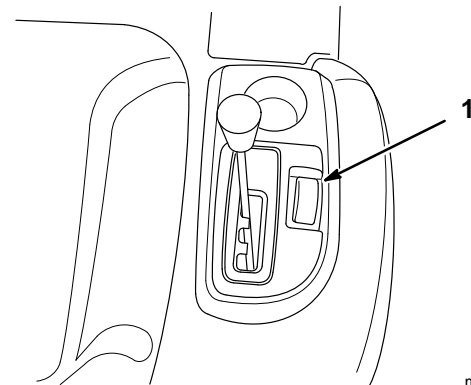

Figure 25
The cruise control is a switch (Fig. 25) on the right fender that maintains a set traction control position without foot pressure. The cruise control only operates when moving forward.
1. Begin driving the tractor; refer to Driving Forward or Backward, page 21. While holding your foot steady on the traction control pedal, push the cruise control switch (Fig. 25) to the "SET" position. This locks the traction control in position and your foot can then be removed from the traction control. A constant pedal position will be maintained.